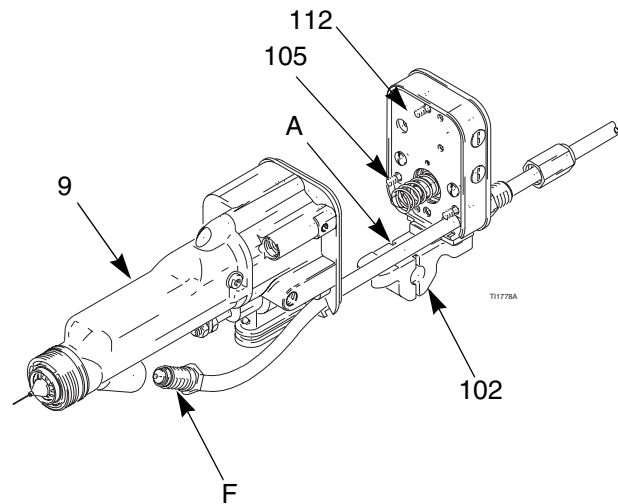

Fig. 22. Remove Gun from Manifold
4. Remove the air cap (3) and shroud (2), page 45.
5. Disconnect the fluid hose fitting (F) from the gun barrel (9).
6. Loosen the bottom gun screw (31) until the gun sits loosely in the mounting bracket slot (A). See FIG. 22..
1. Make sure the gasket (112) and spring (105) are in place on the manifold. See FIG. 22.. Inspect the parts for damage and replace them as needed.
2. Secure the gun to the manifold by tightening the three screws (106).
3. Secure the gun to the mounting bracket (102) by tightening the bottom screw (31).
5. Reinstall the gun shroud (2) and air cap (3), page 45.